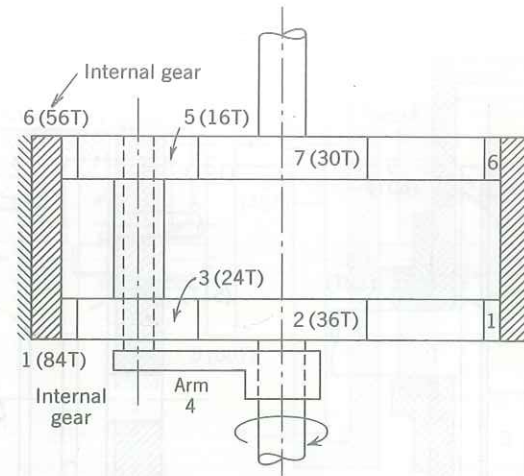

FIGURE 7.36
7.20. In the planetary gear train shown in Fig. 7.36, determine the angular-velocity ratio ω_2/ω_7 . Compare this ratio with that obtained if the arm 4 is connected directly to the output shaft and gears 5, 6, and 7 are omitted.
- 7.37. Calculate the maximum number of equally spaced compound planets that can be used in the gear train of Fig. 7.36.